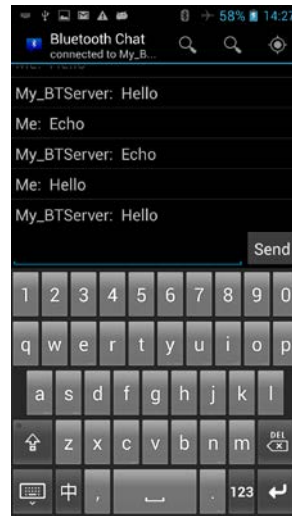

Figure 27 The entered text echoed back from LinkIt ONE
- 3 Now type the content to be sent to LinkIt ONE and you should see it return back from LinkIt ONE, as shown in Figure 27.